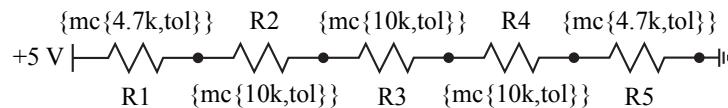

Figure 2.4: Resistor ladder with the values replaced by the LTspice Monte Carlo function.
1. Layout the circuit in Figure 2.4, setting the resistor values to call mc function.